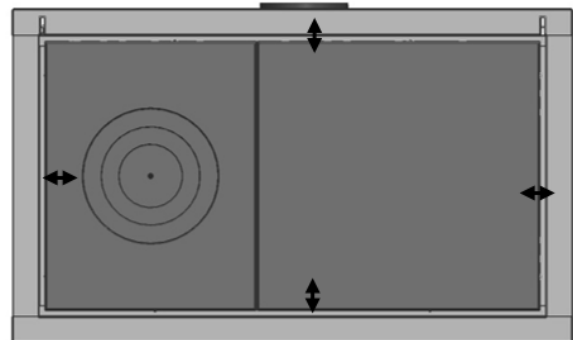

FIG. 18
- Before putting the vitroc ceramic glass worktop in place, check that the cast iron under worktops are centred with respect to the frame of the worktop (Figure 18).